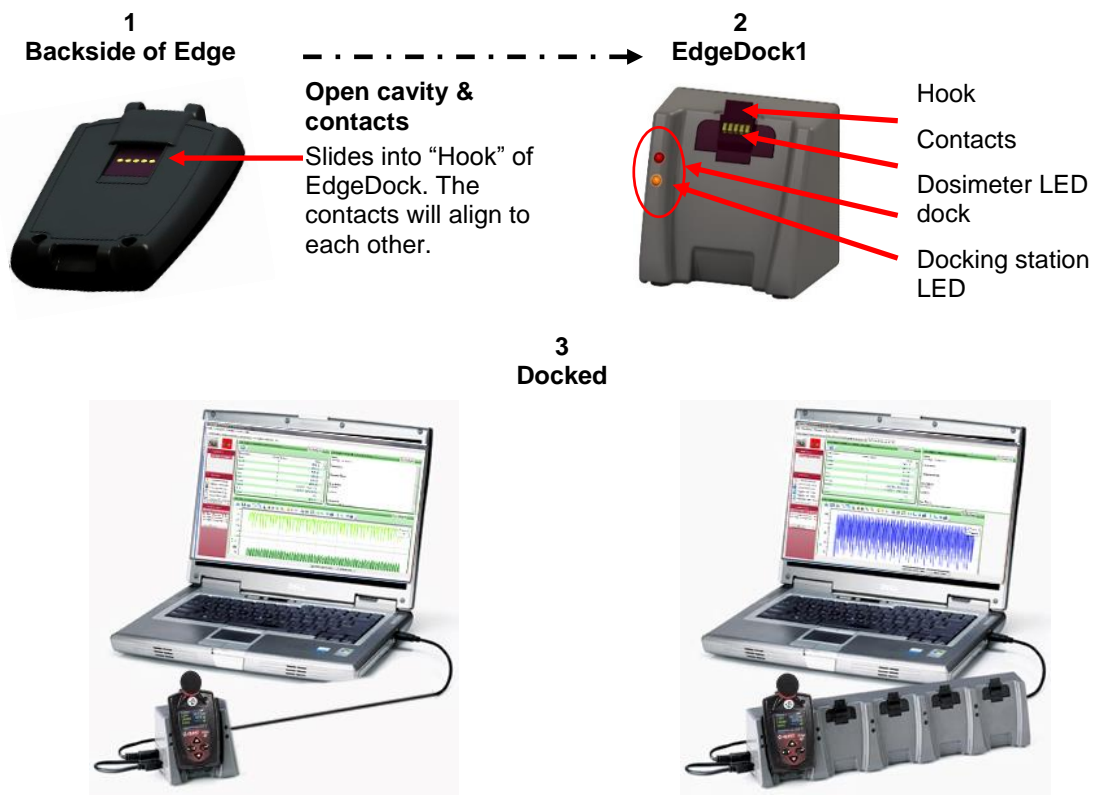

Figure 2-8
2. Slide the Edge (1) downward onto the **Hook** of the EdgeDock (see Figure 2-8 below).